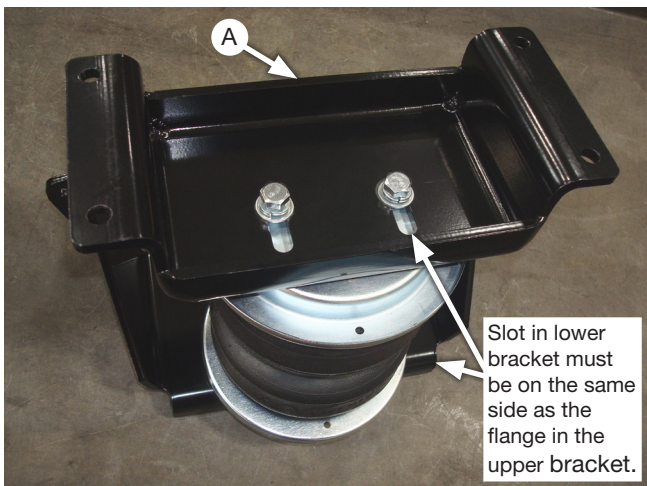

Fig. 6
3. Flip the assemblies over and set a roll plate (C) and lower bracket (A) onto the bottom of the air spring assemblies, making sure that the slot in the lower bracket is on the same side as the flange on the upper bracket (Figs. 6 & 7). Attach to the air spring with 3/8" hex cap screws (F), 3/8" lock washers (G) and 3/8" flat washers (H). Center the air spring as far as the slots will permit and torque the lower bracket hardware to no more than 20 lb.-ft. (27Nm).